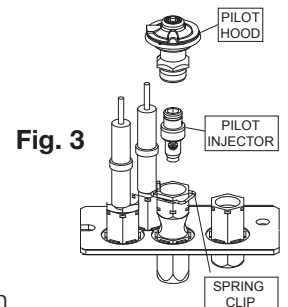

Fig. 3
7. Remove the pilot hood from the pilot assembly by pulling vertically. Use an Allen key to unscrew the injector (**Fig. 3**). Replace the pilot injector with the one supplied. Re-assemble the pilot hood onto the assembly ensuring key position for proper alignment.